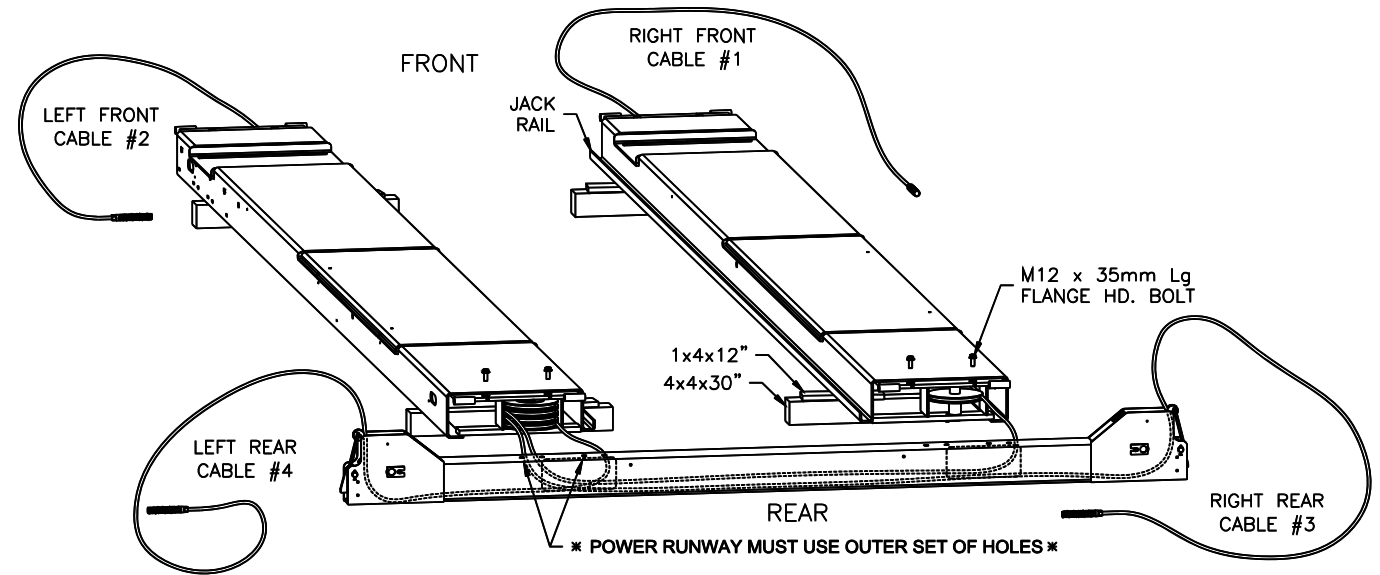

Fig 4 – Runway Layout
- 3) Position runways on blocking (see Fig 4) per layout lines established in step 1. Use four 30"
long 4x4's spanning the width of the runway and four 12" long 1x4's to shim up the jack-rail side of the runway. Cable #1, #3, & #4 should be extending out from the rear of the power runway and cable #2 from the front of the power runway, **Fig 4**.
- 4) Reach in through either of the access holes in the rear cross beam tube and pull out the roll of 1/8" dia. plastic air line connected to the air cylinder at the end of the cross beam. Repeat for opposite access hole and position the cross beam near the end of the runways as in **Fig 4**.
- 8) Attach the rear cross beam to the runways (**Fig. 4**) with M12 x 35mm lg. flange head bolts being careful not to pinch the air line. Leave the air lines hanging out the bottom of the cross beam access holes at this time, they will be fed in through the runway after the lift is raised. **The outermost runway slots should be in line with the outermost holes in the top of the cross beam, see Fig. 4.** Do not torque bolts yet.